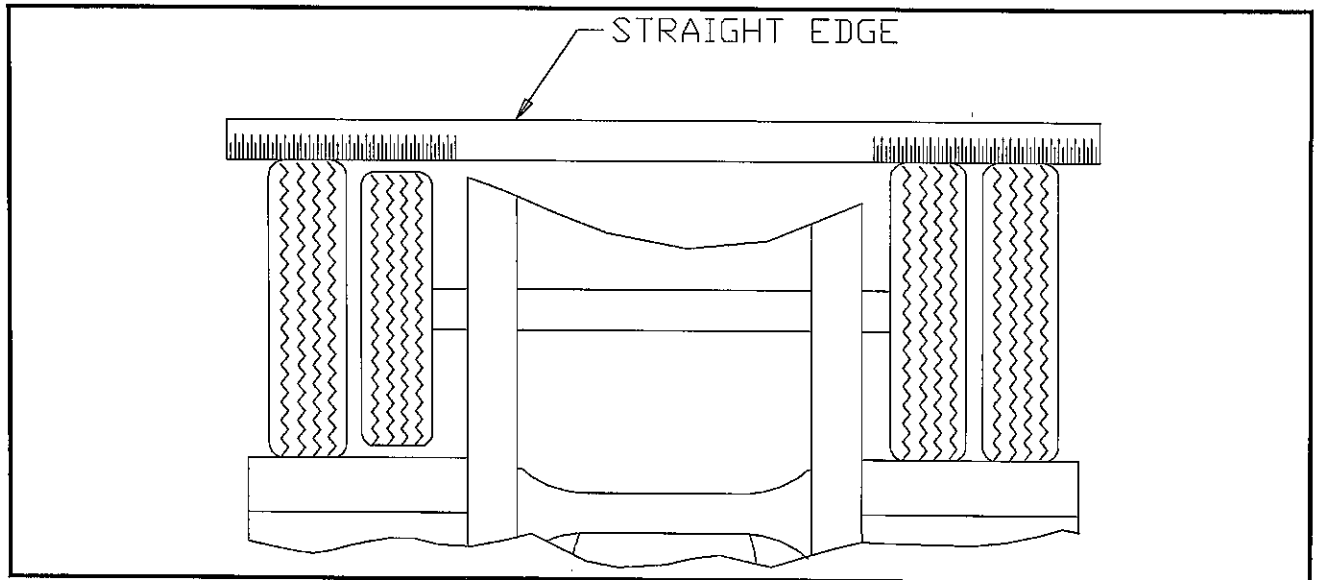

FIG. 6-7 STRAIGHT EDGE METHOD
a. Jack trailer up until the wheels are off of the ground. Hold a straight edge against the tires of both ends of an axle. A gap at one tire indicates a smaller tire. A maximum of 1/8 inch gap is allowed (See FIG. 6-7).